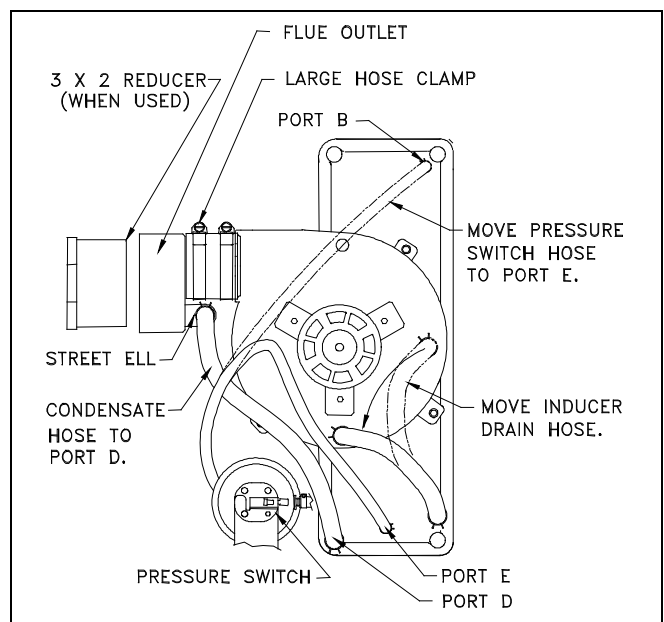

Figure 11. Horizontal Air-Right Vent Connection.
7. Push flue outlet into rubber coupling until it bottoms out. Rotate flue outlet until street ell is on bottom as shown in Figure 11. Tighten hose clamp securely.